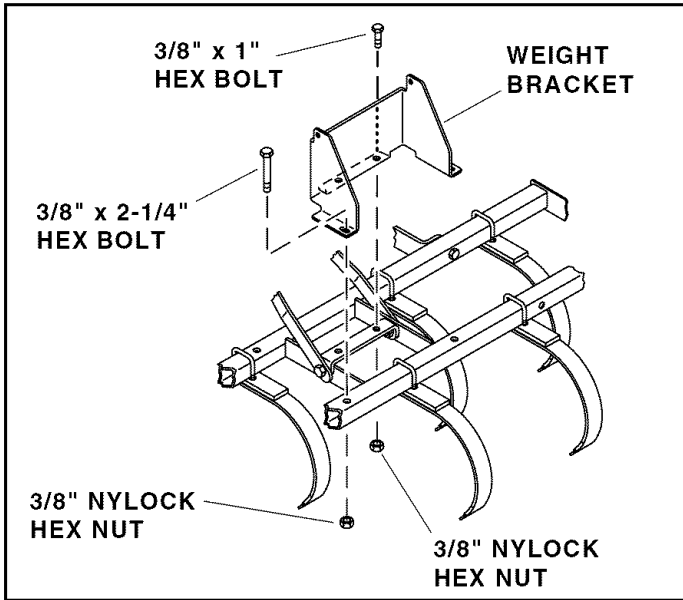

FIGURE 8
8. Attach the front of the weight bracket to the support bracket using two 3/8" x 1" hex bolts and two 3/8" Nylock hex nuts. Attach the sides of the weight bracket to the rear of the frame using two 3/8" x 2-1/4" hex bolts and two 3/8" Nylock hex nuts. See figure 8.